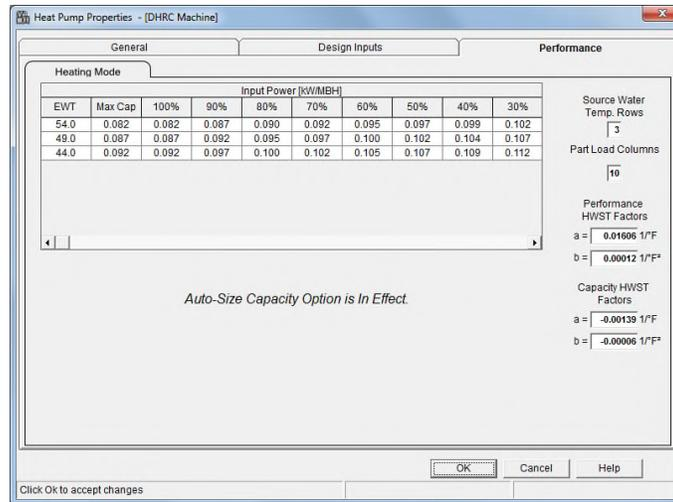

Figure 6.
- On the Performance tab (Figure 6), make sure performance data is provided for the range of operating conditions expected. For a W2W heat pump the rows in the performance map represent performance for different evaporator entering water temperatures.